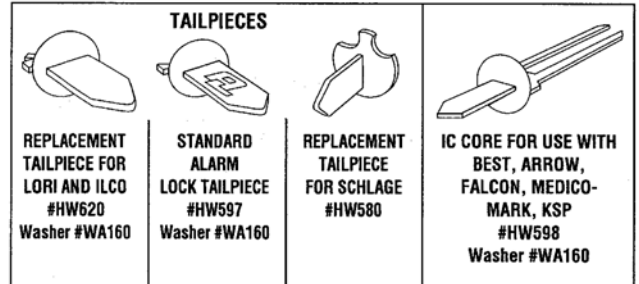
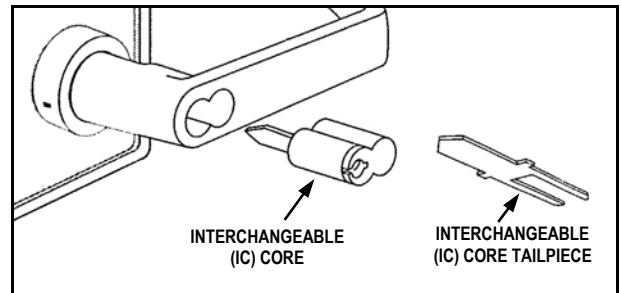

FIG. 21: STANDARD AND IC CORE TAILPIECE VARIETIES
FIG. 22: INSTALL INTERCHANGEABLE (IC) CORE
3. Insert IC core tailpiece (shown in Fig. 21 and Fig. 22) into primary side core. **Note:** With the PDL/DL6100 locks, *tailpieces are used in primary side cores only.* Use ONLY an Alarm Lock® IC core tailpiece.
- Key and tailpiece orientation are incorrect (See Fig. 21 and 22).
- Lever Catch not fully engaged. Lock is not centered on door. Check for proper tailpiece and proper orientation of tailpiece (See Fig. 21 and 22).